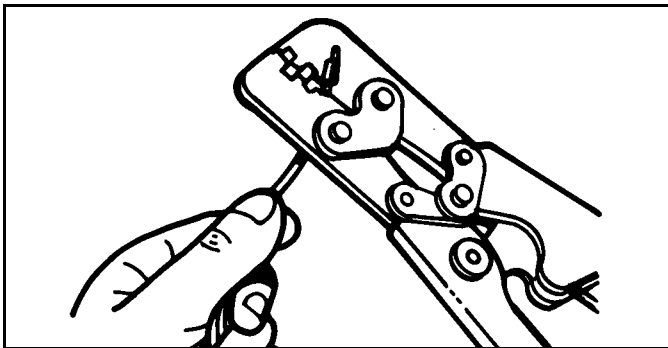

Figure 3-12
5. Place proper size contact on wire and use Crimper (#96102500) to crimp contact in place with a “W” type crimp. (See Figure 3-12)